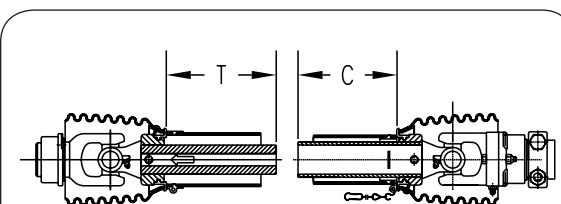

Fig. 4-34
2. Pull apart PTO telescoping shaft ends and measure lengths “T” & “C” (Fig. 4-34).